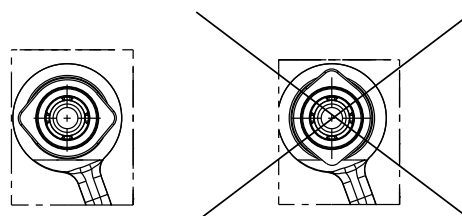

Fig. 5 Fitting the stationary shaft seal part (only SiC/SiC)
2. Press the stationary shaft seal part home. See fig. 5.